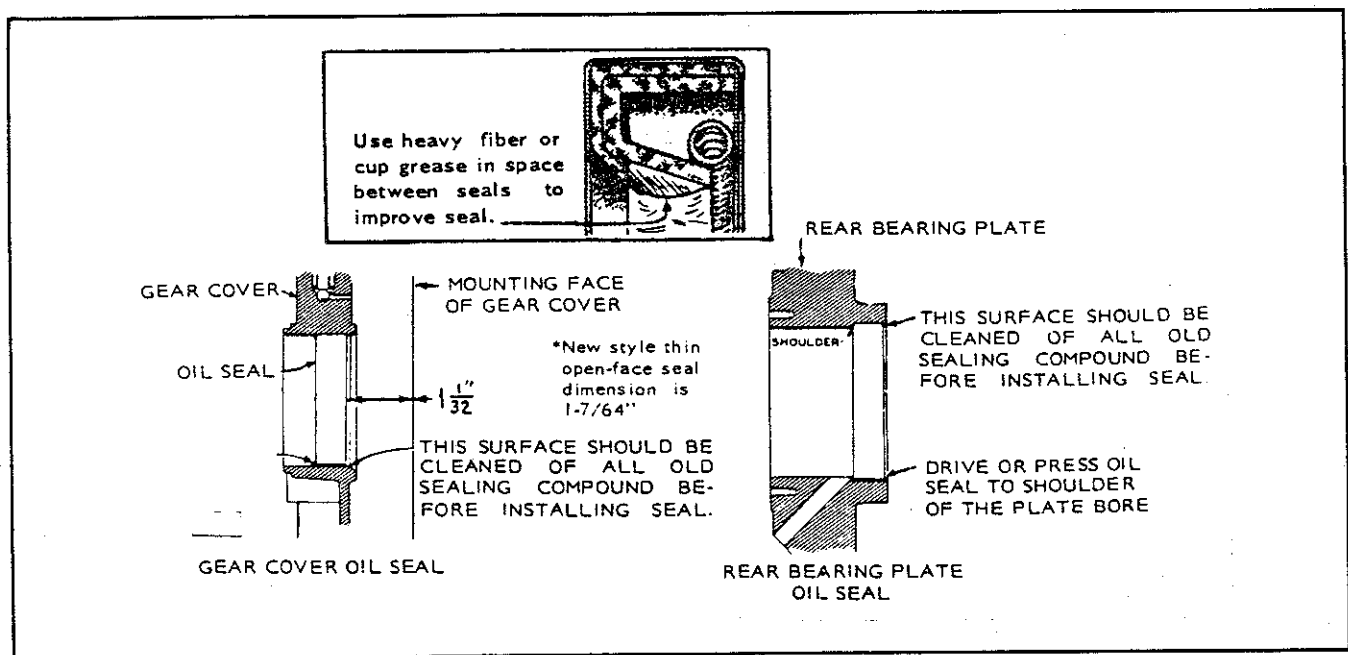

Figure 6-6. Oil Seal Installation
- (5) Install expansion plug (100, figure 8-13). Press new oil seal (95) into rear bearing plate (91) as shown in figure 6-6.
- (20) Position oil base gasket (42) on oil base (39). Place cylinder block assembly (104) on oil base (39) and attach with four washers (41) and four bolts (40). Position mounting gasket (37) and oil fill tube (34) on oil base (39) and attach with two washers (36) and two screws (35). Position cap gasket (33) on indicator and cap (32). Slide indicator and cap (32) into oil fill tube (34). Screw pipe plug (38) into oil base (39).
- (21) Position two valve cover gaskets (31) and valve covers (28) on cylinder block assembly (104) and attach with two washers (30) and two cap screws (29).
- (22) Press two locating pins (26) in cylinder block assembly (104). Press ball pin (23) in gear cover (24). Install oil seal (13) in gear cover (24) as shown in figure 6-6. Press upper needle bearing (21, figure 8-13) and oil seal (19) in gear cover (24). Position ball (22) and lower needle bearing (21) in cup inside the gear cover (24). Slide arm and shaft assembly (14) in gear cover. Slide yoke (16) in arm and shaft assembly (14). Attach the retaining ring (18). Slide clip (15) on arm and shaft (14).
- (23) Position gear cover gasket (27) and install gear cover (24). Make sure that ball pin (23) engages chamfered hole in governor cup (50). Turn governor cup (50) so that chamfered hole is at three o'clock position. Turn arm and shaft assembly clockwise as far as possible and hold in this position until gear cover is installed flush against crankcase. Attach with five washers (12), one cap screw (11) and four cap screws (10).
- (24) Press the ring gear (8) on the flywheel (9). Position key (7) and slide flywheel (9) on crankshaft (99). Position washers (6 and 5) and attach with screw (4). Torque screw (4) to limits specified in table 6-1.